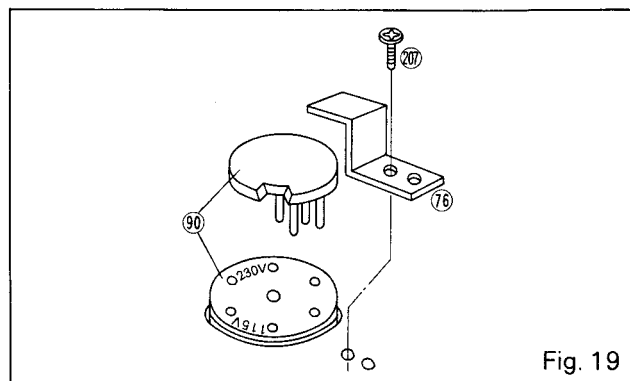

Fig. 19
- (1) Remove the turntable platter, remove the screw which fasten the protector and remove the protector. (Fig. 19)
- (2) Withdraw the plug and reinsert it in such a way that the desired voltage marking is exposed in the cut of the plug.
- (3) Fasten the protector with the screw.